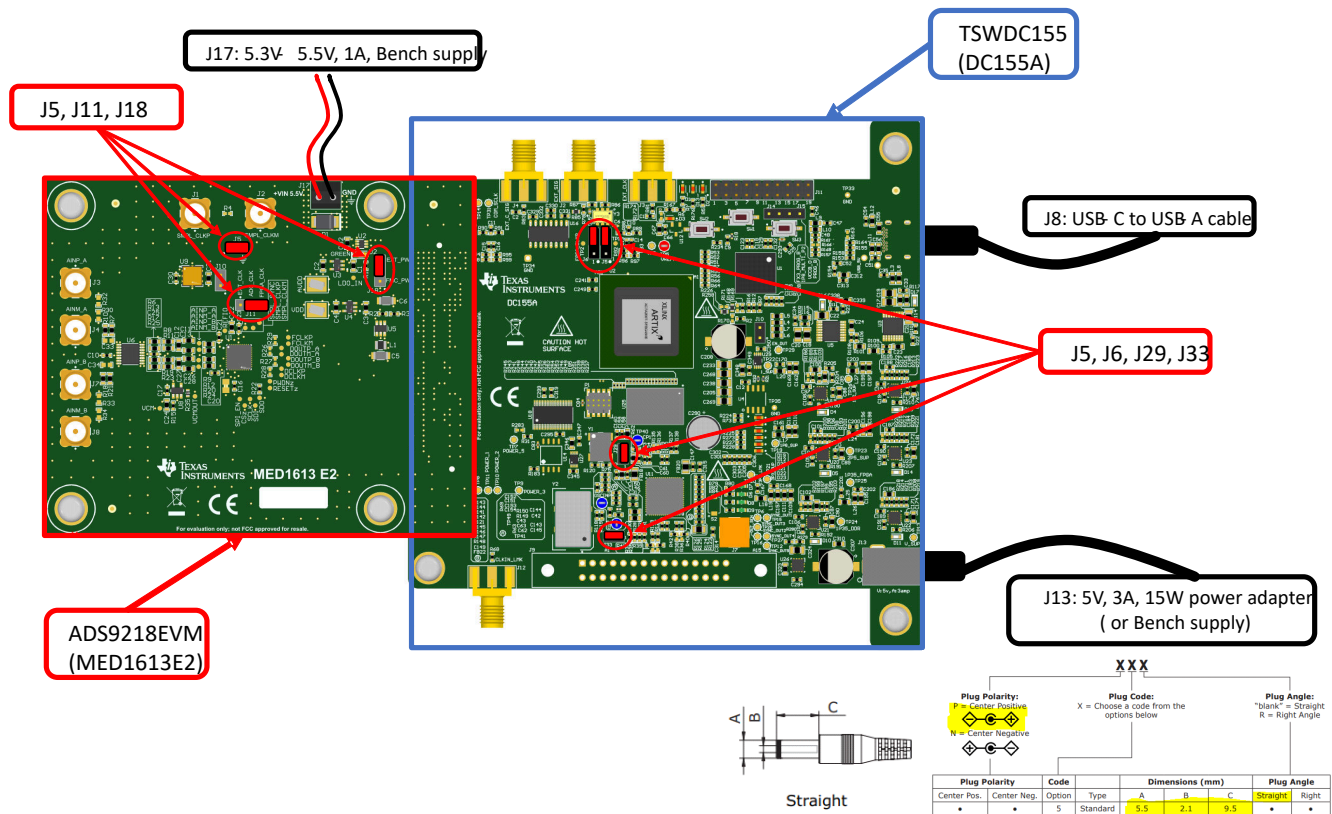

Figure 6-3. Connecting the Hardware
1. Connect the EVM and set the jumpers as shown in Figure 6-3 after installing the software.